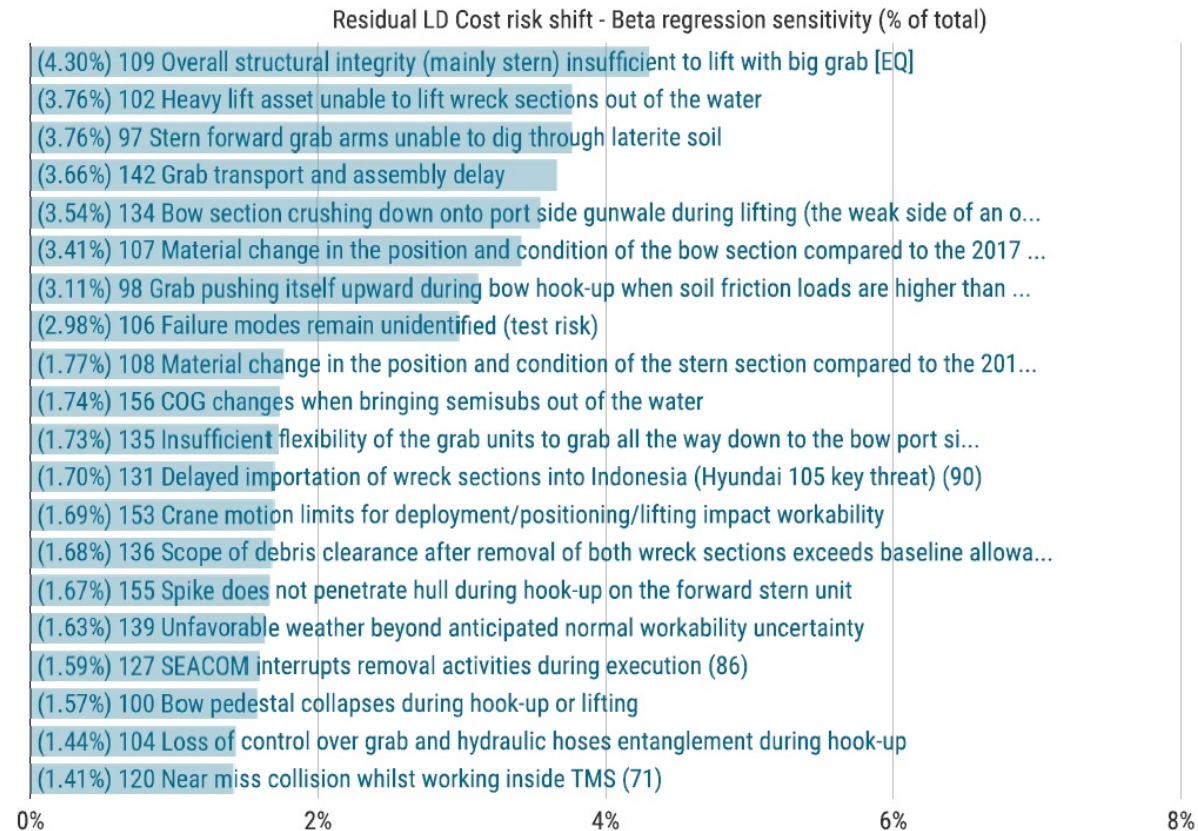

Figure 2 - xpoSure Risk Forecast Sensitivity Analysis
- Sensitivity analyses showing the largest uncertainty and risk contributors to the risk shifts. The sensitivity analysis is expressed in the form of a tornado diagram (Figure 2). Cost and time sensitive risks and uncertainties occur in the top of the diagram, which is aimed at setting focus on high priority areas for immediate risk mitigation.
Figure 2 shows the risks and uncertainties that are the most sensitive to the overall time-phased cost shift of a project, i.e., of risks causing time delay and subsequently causing additional project costs. The first eight risks account for up to 25% of the predicted time-phased cost shift. Like the critical path in a Gantt chart, the
contractor is encouraged to concentrate on the risks that have the biggest impact on the project timeline. Figure 2 and other similar outputs are excellent tools for focusing the efforts of the contractor.
Baseline Costs are introduced in the subsequent interviews. The Risk Forecast now includes both time and costs. The same internal review process can now be done with the contractor focusing on the tasks that have the biggest impact on both time and costs (See Figure 2). While we might all agree that time is money, the risk that has the biggest impact on time does not necessarily have the biggest impact on costs. The contractor can use this forecast to justify changes to any part of their proposal during the interviews, between the interviews and up until the time of submittal; they often do.